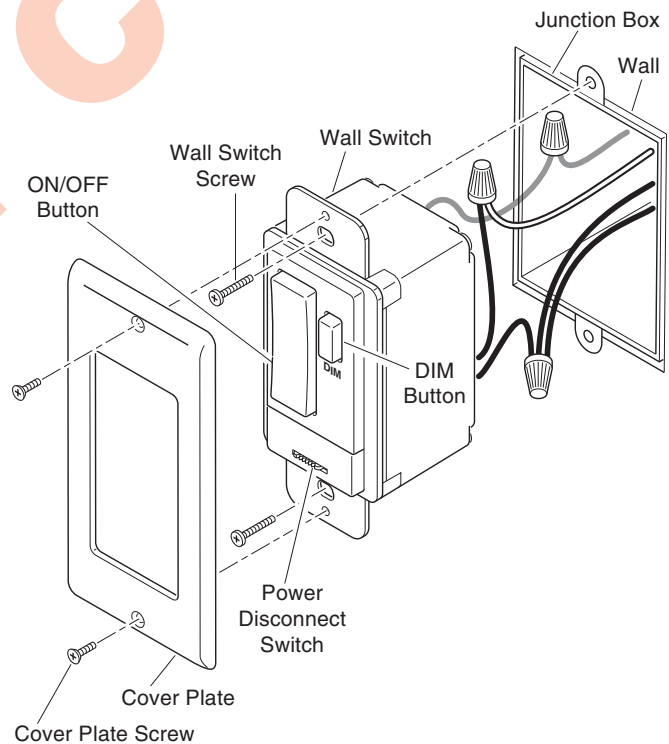

Figure 3
6. Connect the green ground wire from transmitter to the ground wire removed from old switch. Use one of the supplied wire connectors to secure the wires (see Figure 3).
8. Position the wall switch transmitter in the junction box with the DIM button located to the right. Use the two wall switch screws (long) supplied to mount the receiver to the junction box (see Figure 3). Push excess wiring into junction box while you do this, bending the wires to fit if necessary.